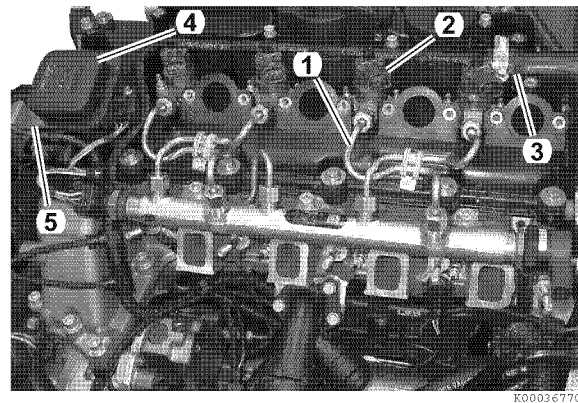

Figure 5-4
5. Disconnect high-pressure fuel lines (1, **Figure 5-4**) and remove fuel injectors (2, **Figure 5-4**). *See Remove Fuel Injector on page 6-11.*
6. Disconnect breather hose (3, **Figure 5-4**) from breather.
7. Remove oil fill cap (4, **Figure 5-4**) and lift rubber gasket (5, **Figure 5-4**) to access cover bolt located under the rubber gasket.